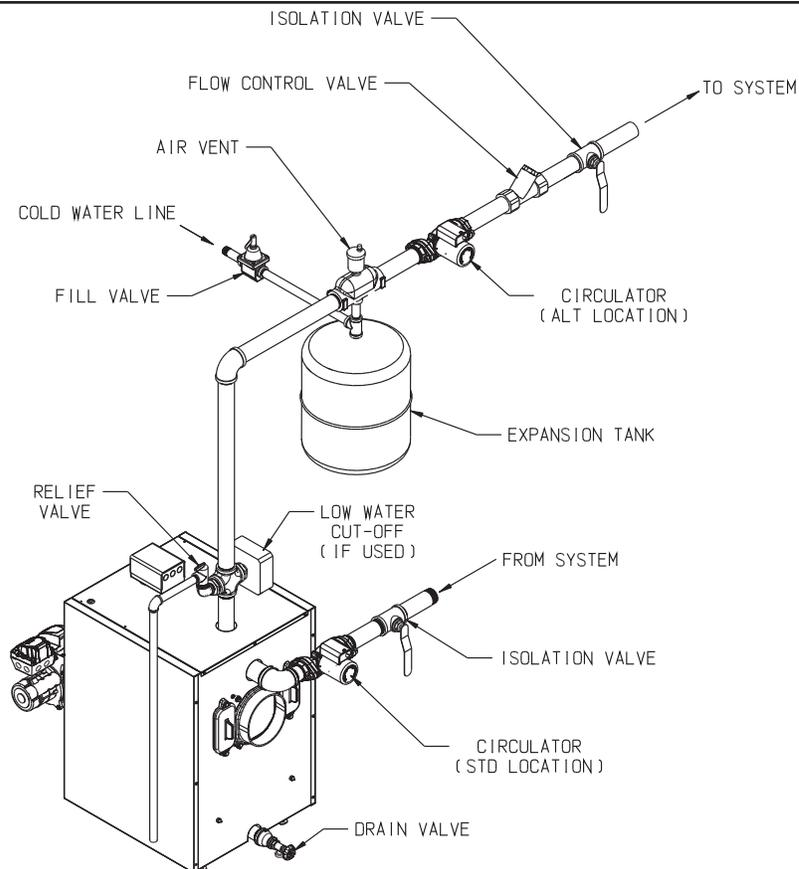

FIGURE 8.2: STANDARD BOILER PIPING
Figure 8.2 shows typical boiler system connections on a single zone system. Additional information on hydronic system design may be found in the *I=B=R* Guide RHH published by the Air-Conditioning, Heating and Refrigeration Institute (AHRI). The components in this system and their purposes are as follows:
- 3) **Circulator (Required)** - Figure 8.2 shows the ideal location of the circulator which is in the supply piping immediately downstream of the expansion tank. A less ideal, but acceptable, location for most residential circulators is in the return. The circulator/s and connected piping should be sized so that the temperature rise across the boiler is 20F. Burner operation while the flow through the boiler is less than that shown in Table 8.0, column (a) could result in problems regulating the supply temperature. If the system is zoned, the flow rate through the boiler should be greater than that shown in Table 8.0 when only the zone having the lowest flow rate is on. If this requirement cannot otherwise be met, use a bypass, or primary-secondary piping. Boiler head loss data at the minimum flow and the flow corresponding to a 20F rise are shown in Table 8.0.